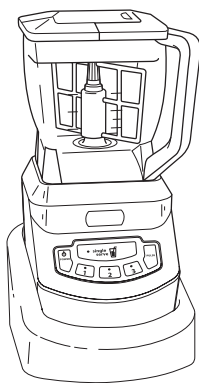

Fig. 4
- 5 Add the ingredients and secure the bowl lid onto the bowl. (Fig. 4)